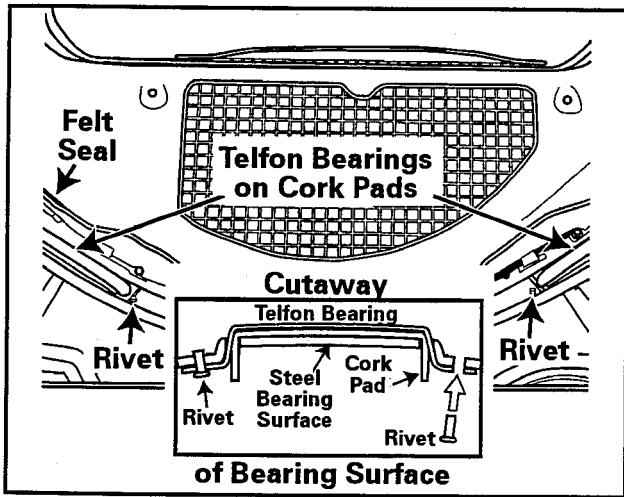

Figure 6-6
3. Drill out the old rivets and rivet new bearings in place. In positioning the bearing and cork pad, the face of the bearing should ride against the tumbler, (See Figure 6-6).